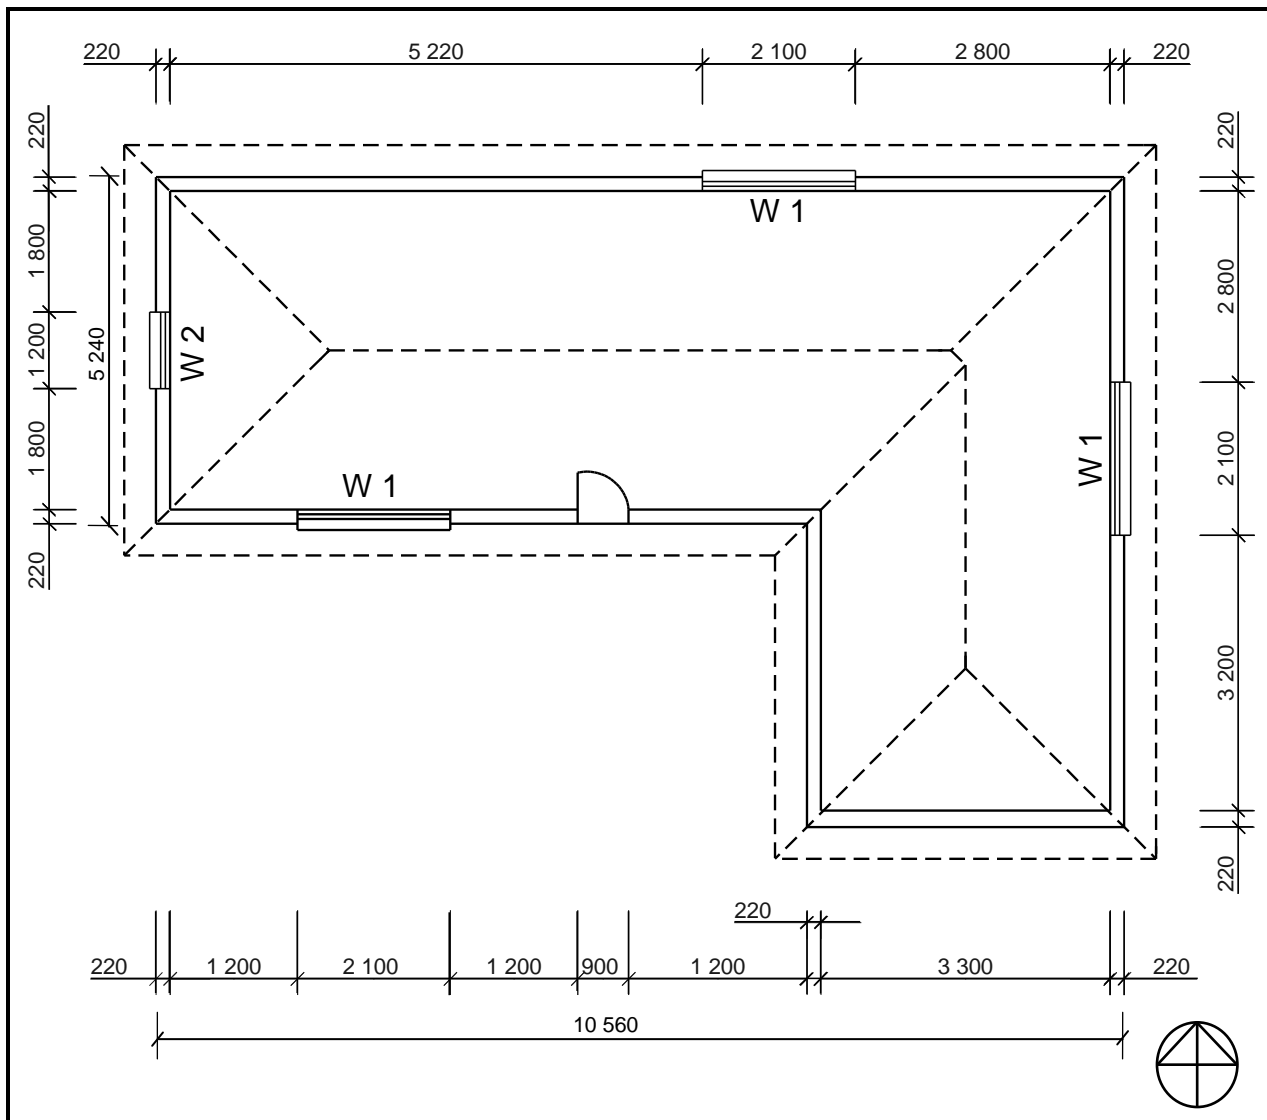

FIGURE 6.2
6.2 FIGURE 6.2 below shows an incomplete floor plan with the roof layout of a proposed dwelling.
Study FIGURE 6.2 and develop and draw, on ANSWER SHEET 6.2, to scale 1 : 50, the SOUTH ELEVATION of the building. Use the specifications below and on the next page. (Use the assessment criteria on ANSWER SHEET 6.2 as a guideline for your drawing.)